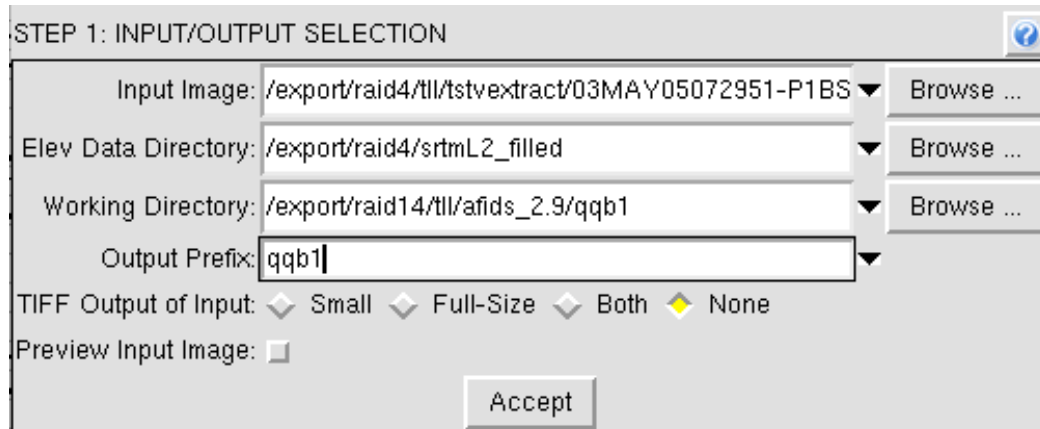

Figure 5-1: STEP 1 – Enter the required fields, then click the "Accept" button.
- The following parameters refer to the gui interface shown in Figure 5-1.